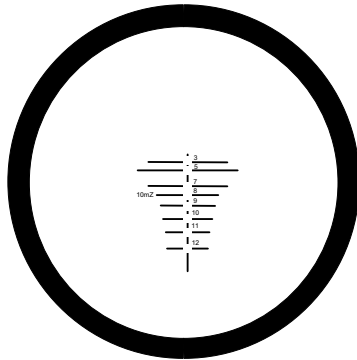

Figure 1. Maximum Field of View, Correct Eye Relief.
- a. If the target scene fills the telescope to provide the maximum field of view, the correct eye relief has been attained (see Figure 1). No further repositioning of the telescope on the Picatinny rail is required.
- a. Loosen the torque limiting knob (1) and move the telescope in the appropriate direction (forward or backward) until you achieve the correct eye relief.
- b. Repeat steps 1 through 5 until the correct field of view is obtained as shown in Figure 1.